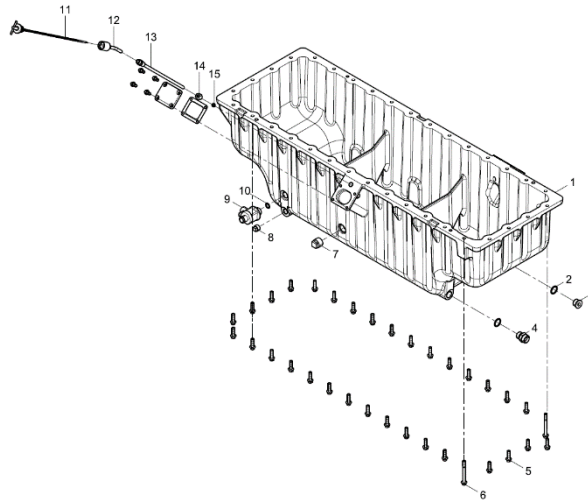

Figure 88. Oil Pan Assembly
1. Remove the Oil dipstick (Figure 88, Items 11, 12 & 13).
2. With a crane or any hosting assistance, remove the thirty-four bolts (Figure 88, Items 5 & 6).